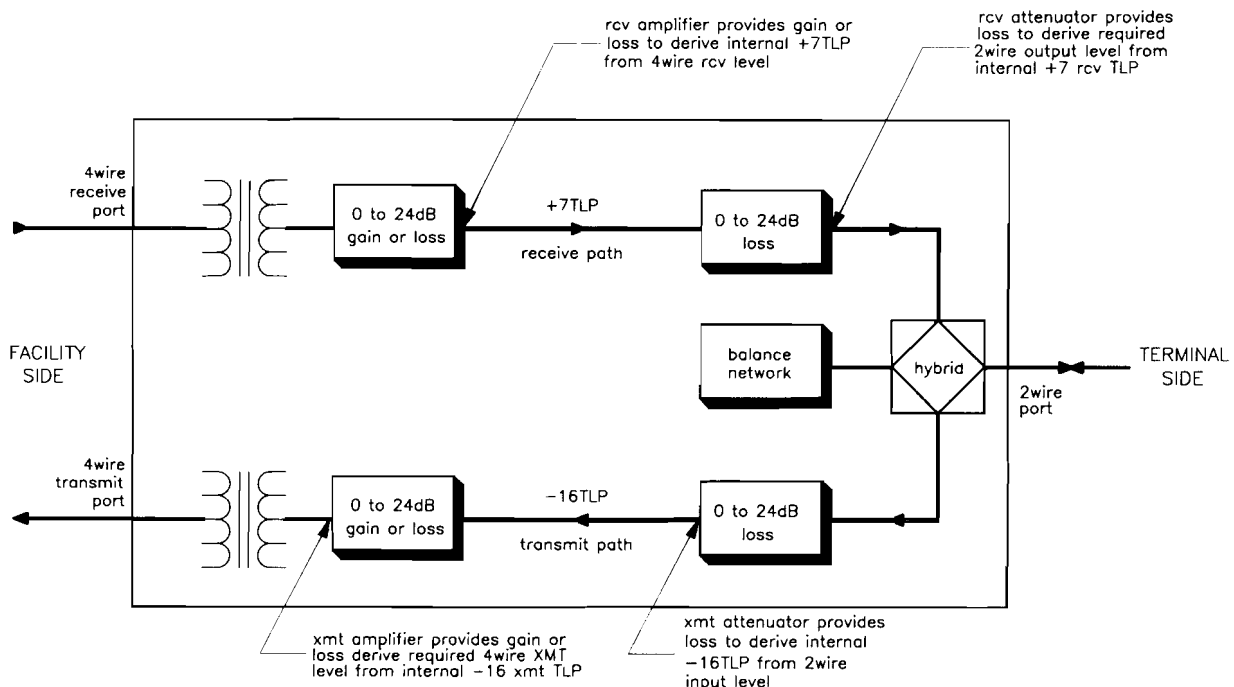

figure 4. Level coordination in 6177 module
**2.07** Prescription-set transmit and receive amplifiers on the facility side of the 6177 allow the module to interface the 4wire SF signaling facility directly, i.e., without a separate facility-side line amplifier. These amplifiers, in conjunction with the prescription-set transmit and receive attenuators on the module's terminal side, provide for full coordination between facility-side (4wire) and terminal-side (2wire) levels (see figure 4). In the receive channel, the facility-side amplifier is set to provide the gain or loss necessary to derive a +7 transmission level point (TLP) within the module. This internal TLP is then used as a reference as the module's terminal-side receive attenuator is set to provide the loss necessary to derive the required terminal-side 2wire output level. In the transmit channel, the terminal-side attenuator is set to provide the loss necessary to derive a -16TLP within the module. This internal TLP is then used as a reference as the module's facility-side transmit amplifier is set to provide the gain or loss necessary to derive the required facility-side 4wire transmit output level. Both facility-side amplifiers in the 6177 provide from 0 to 24dB of gain or 0 to 24dB of loss in switch-selectable 0.1dB increments. Both terminal-side attenuators provide from 0 to 24dB of loss in switch-selectable 0.1dB increments. Thus, 4wire receive TLP's from -17 to +7 can be accommodated and 2wire output TLP's from +7 to -17 can be derived. In a similar manner, 2wire input TLP's from -16 to +8 can be accommodated and 4wire transmit TLP's from +8 to -16 can be derived. Total facility-side gain or loss and total terminal-side loss introduced into a channel are the